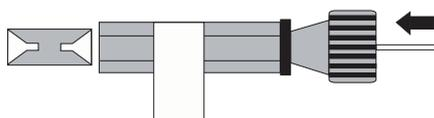

FIGURE C-11. Removing the Cartridge from the Holder
- b) Push the connection tubing into the holder, this way the cartridge falls out of the holder easily (FIGURE C-11).